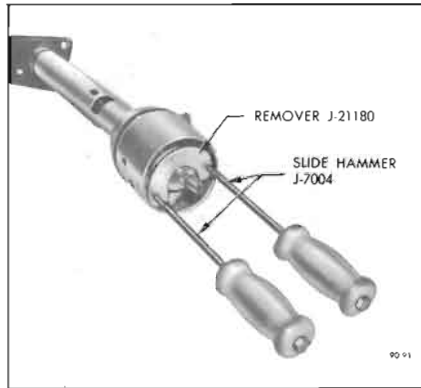

Figure 90-91—Removing Cover from Mast Jacket
5. Assemble two Slide Hammers J-7004 to Remover J-21180 and install inside cover as shown in Figure 90-91. Hold edges of Remover J-21180 against rim of cover and evenly work cover off of mast jacket.